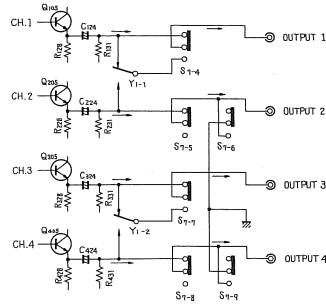

Fig. 12
1. The output signal for CH.1 is provided to OUTPUT 1 through the terminal S7-4 (Fig. 12).